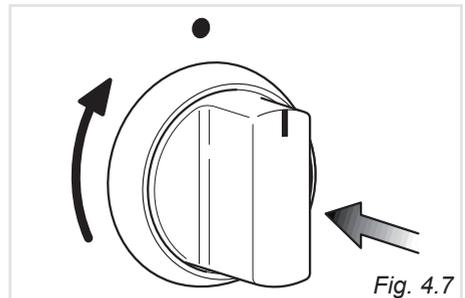

Fig. 4.7
3. Press in the grill control knob (fig. 4.7) and turn clockwise to the position marked by the symbol . **Visually check that the burner has lit.**